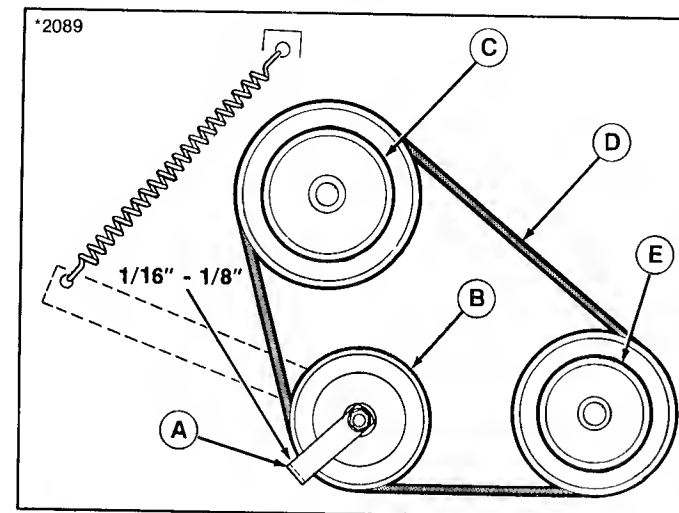

Figure 31.
The belt retainer (A, figure 31) should be from 1/16" to 1/8" from the idler pulley (B). It should be positioned so that it tends to push the belt out of the engine pulley (C) when the PTO lever is disengaged. Belt retainer should not pinch or bind the belt when PTO is engaged.